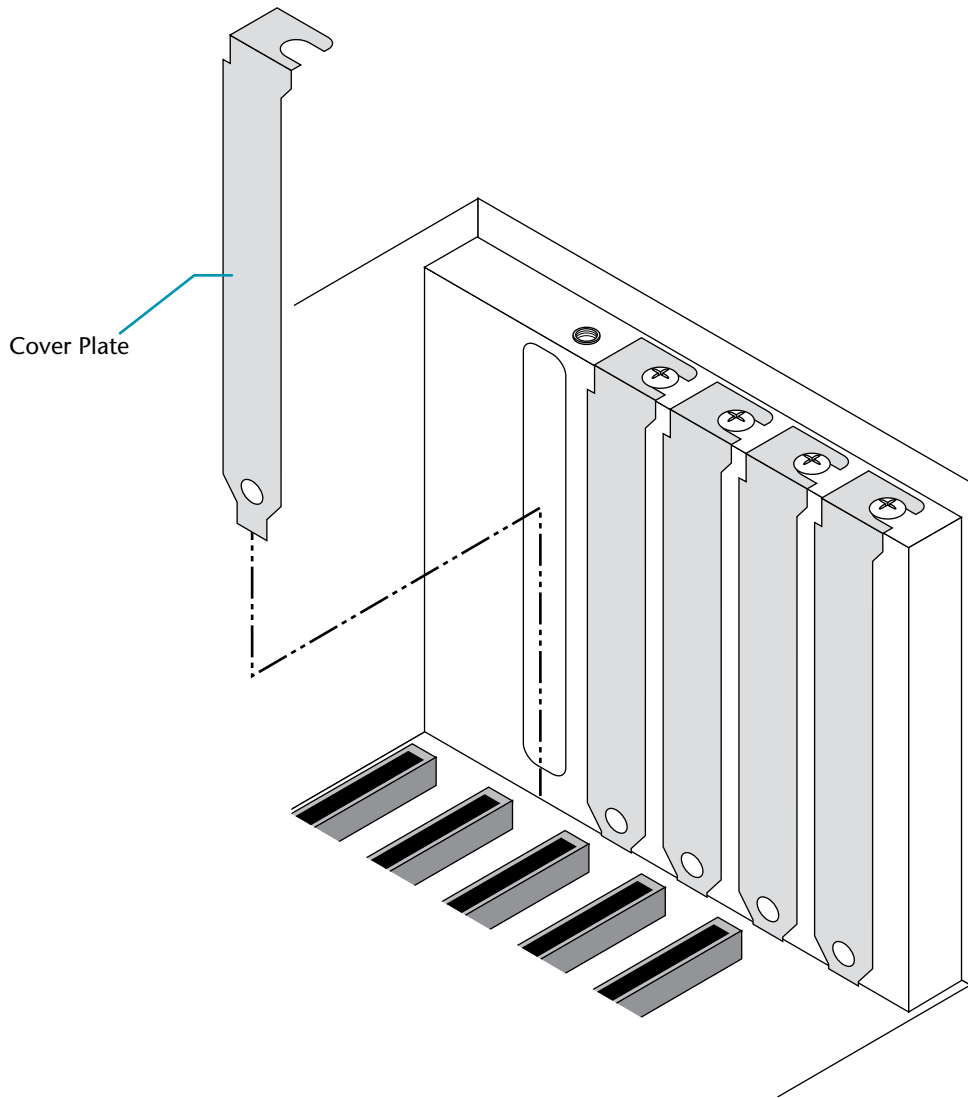

Figure 2-4. Removing the cover plate
6. Remove the cover plate from the slot (see figure 2-4).